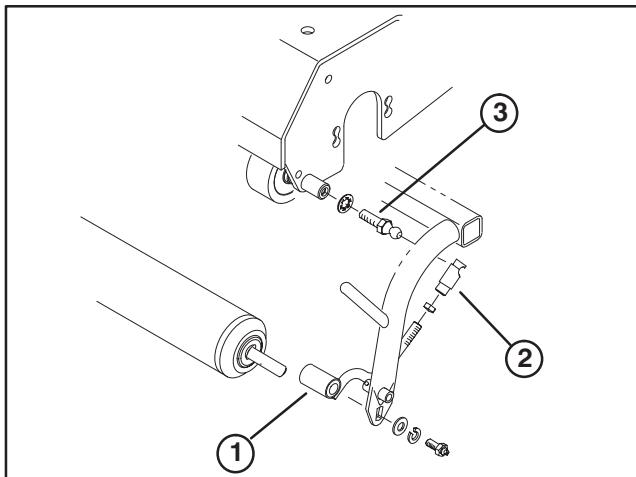

Figure 7
4. When mounting Tri-Roller Kit to Greensmaster 3050 or 3100 traction unit, use small diameter ball stud and washer on each end of tri-roller (Fig. 7). Adjust links so they are forward as far as they will go.